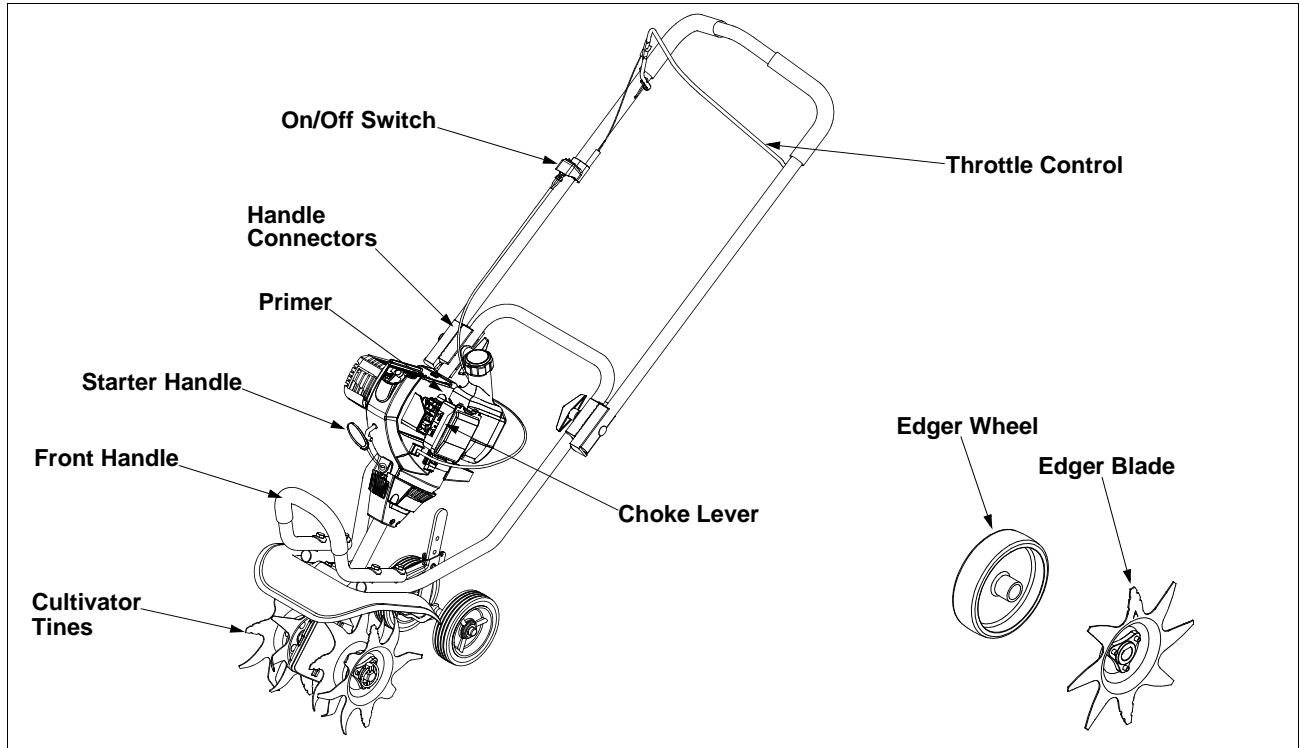

Figure 2
Read this operator's manual and safety rules before operating your cultivator / edger. Compare the illustrations with your unit to familiarize yourself with the location of various controls and adjustments. See Figure 2.
- Squeeze the throttle control to the wide open position. Refer to Figure 2.
- Move the choke to Partial (B) position.
- Move choke lever to Open (C) position.